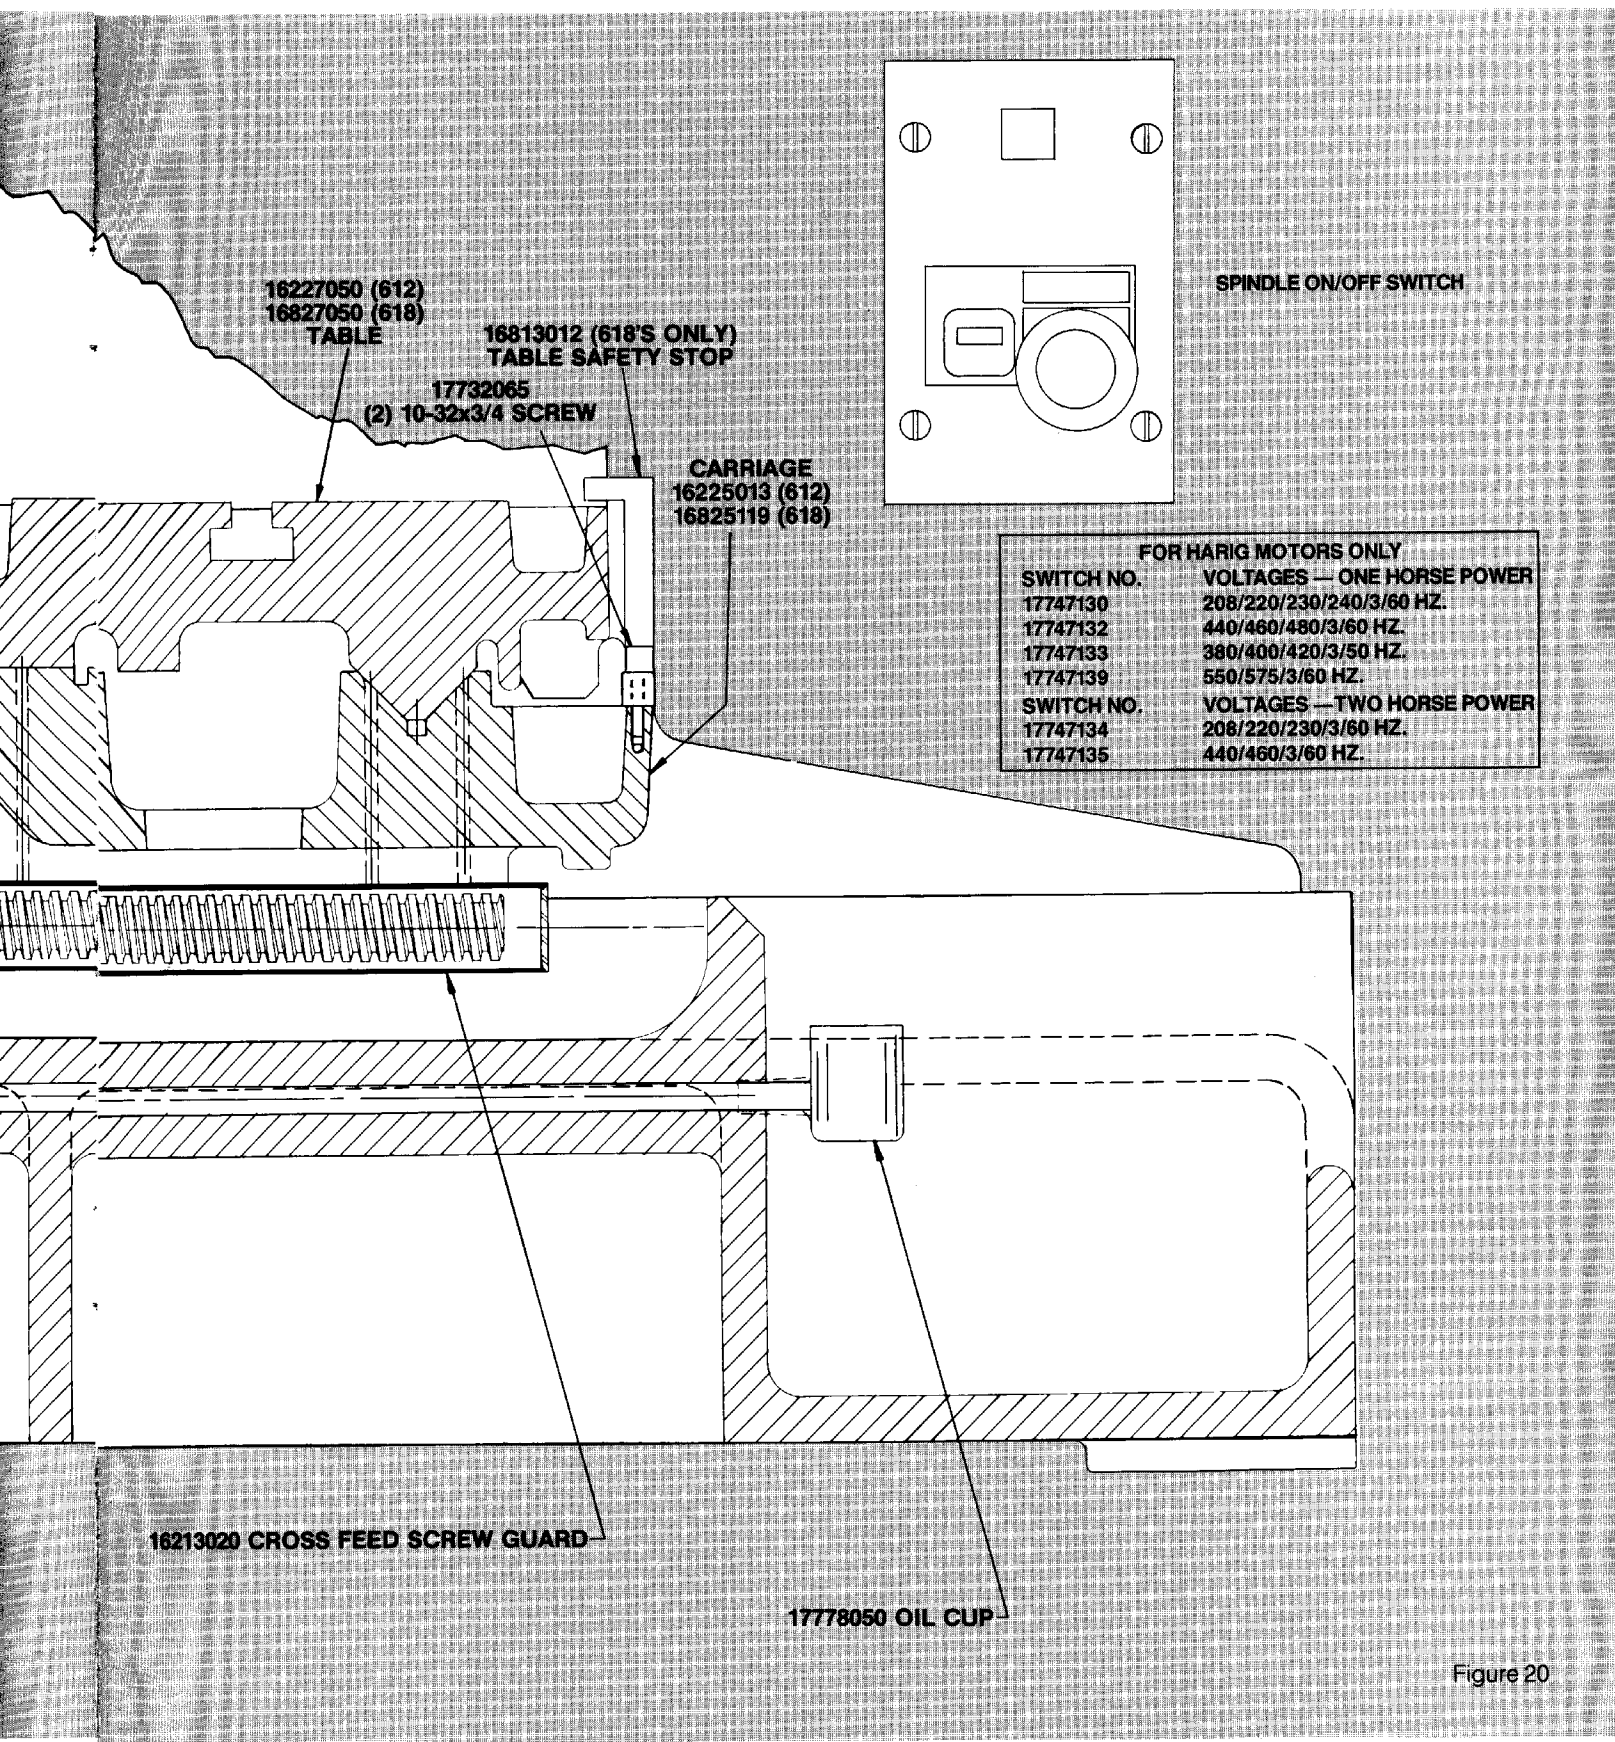

Figure 20
**C. 618 Cable broken or worn.** To replace cable, remove Table Safety Stop 16813012 (*Fig. 20*). Remove cable Longfeed Eyebolt 16213053 (*Fig. 21*) and slip cable off cable post 16213039.